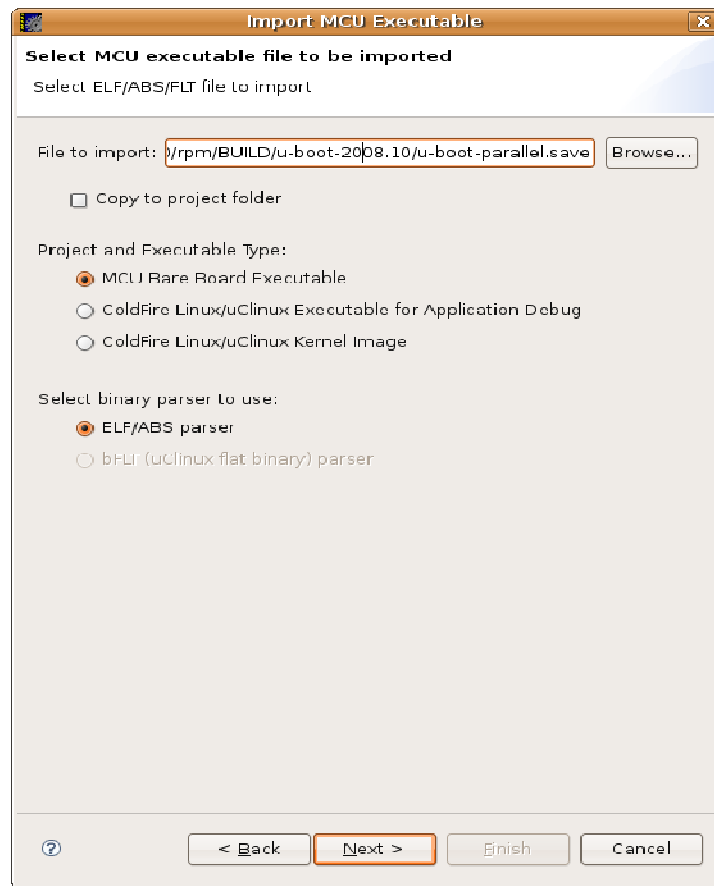

Figure-3 Select MCU executable file
5) In the File to Import text box, specify the path of u-boot ELF file from u-boot source directory. Please refer to Figure-3. Click Next.